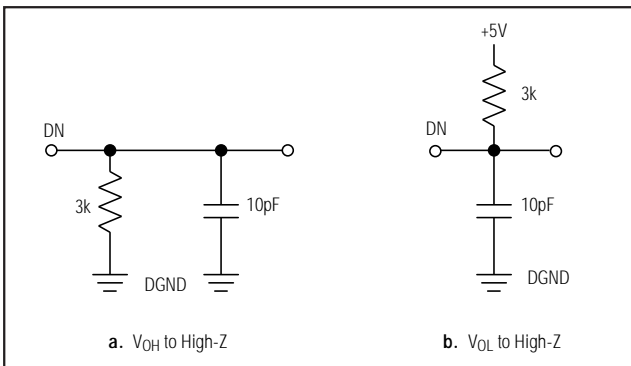

Figure 2. Load Circuits for Bus-Relinquish Time
- Note 16:** t_7 is defined as the time required for the data lines to change 0.5V when loaded with the circuits of Figure 2.